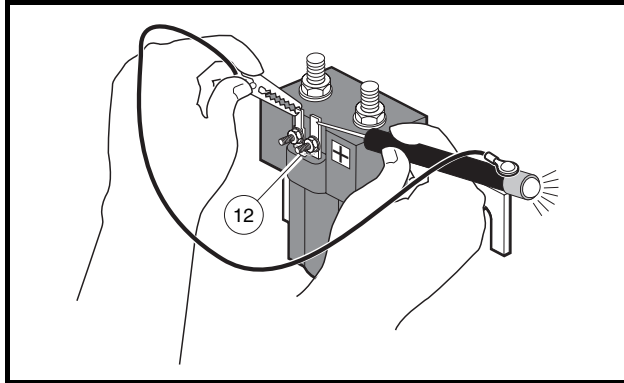

Figure 18-4 Diode Test – Probe Position One
- 3.1. Place the probe end of the tester on the small terminal of the solenoid marked positive (+) and place the alligator clip of the tester on the wire on the other small activating coil terminal (**Figure 18-4, Page 18-13**). The tester should illuminate, indicating continuity.